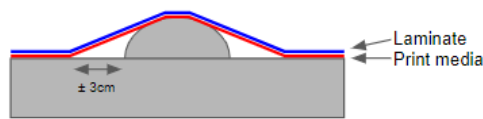

Fig.10
- 1) Position the film over the entire riveted surface, leaving a ± 3 cm gap between the flat surface and the substrate around the rivets. *Fig.10*